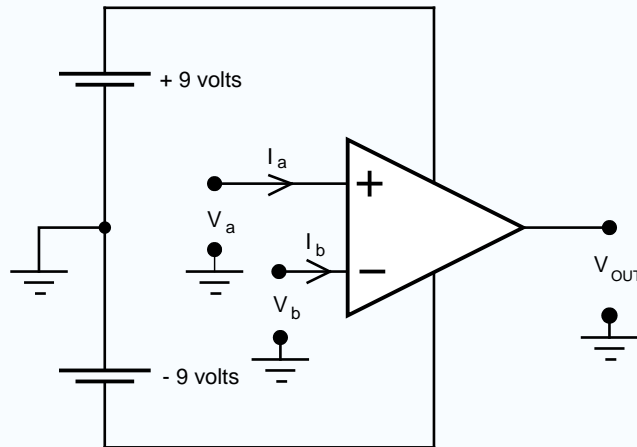
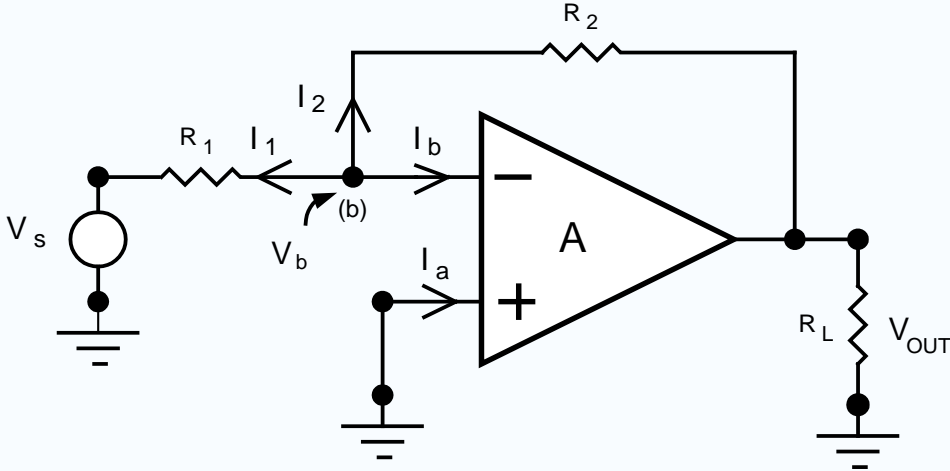

Figure 12.2. Op-amp circuit connections of inputs, power supplies and output.
Figure 12.3. Inverting amplifier circuit using an op-amp.
input and a "noninverting" or (+) input and a single output. The circuit of an op-amp can be very complex, typically consisting of more than twenty transistors. The op-amp is usually powered by a two polarity power supply $+V_{cc}$ in the range of +5 to +15 volts and $-V_{cc}$ in the range -5 to -15 volts for the positive and negative power supplies, respectively. A dual polarity power supply is shown in the Fig. 12.2. The two 9 volt power supplies could be two 9 volt batteries for
A simple circuit that illustrates the utility of the op-amp is shown in Fig. 12.3. The schematic does not show the power supply connection, which is given in Fig. 12.2. The op-amp plus input is connected to ground.
Regardless of the value of R_L , the gain is determined by the resistance ratio R_2/R_1 . The same limitations apply to R_L , as they do for the circuit in Fig. 12.3.
as if the capacitor is like an open circuit and the circuit behaves like an inverting amplifier as in Fig. 12.3.
1) Using the LM741 op-amp, build the circuit shown in Fig. 12.3. You do not have to connect anything to pins 1, 5 and 8. Set R_2 to 20K Ohms (two 10K Ohm resistors connected in series will work), and set R_1 to 10K Ohms. Use $+V_{CC} = 9$ volts and $-V_{CC} = -9$ volts, and connect the power supplies as shown in Fig. 12.2. Be sure to measure the power supply voltages before connecting the power supply to your circuit. Also, leave the power supply unconnected to the circuit while you are building the circuit. For R_L , use 10K Ohm.